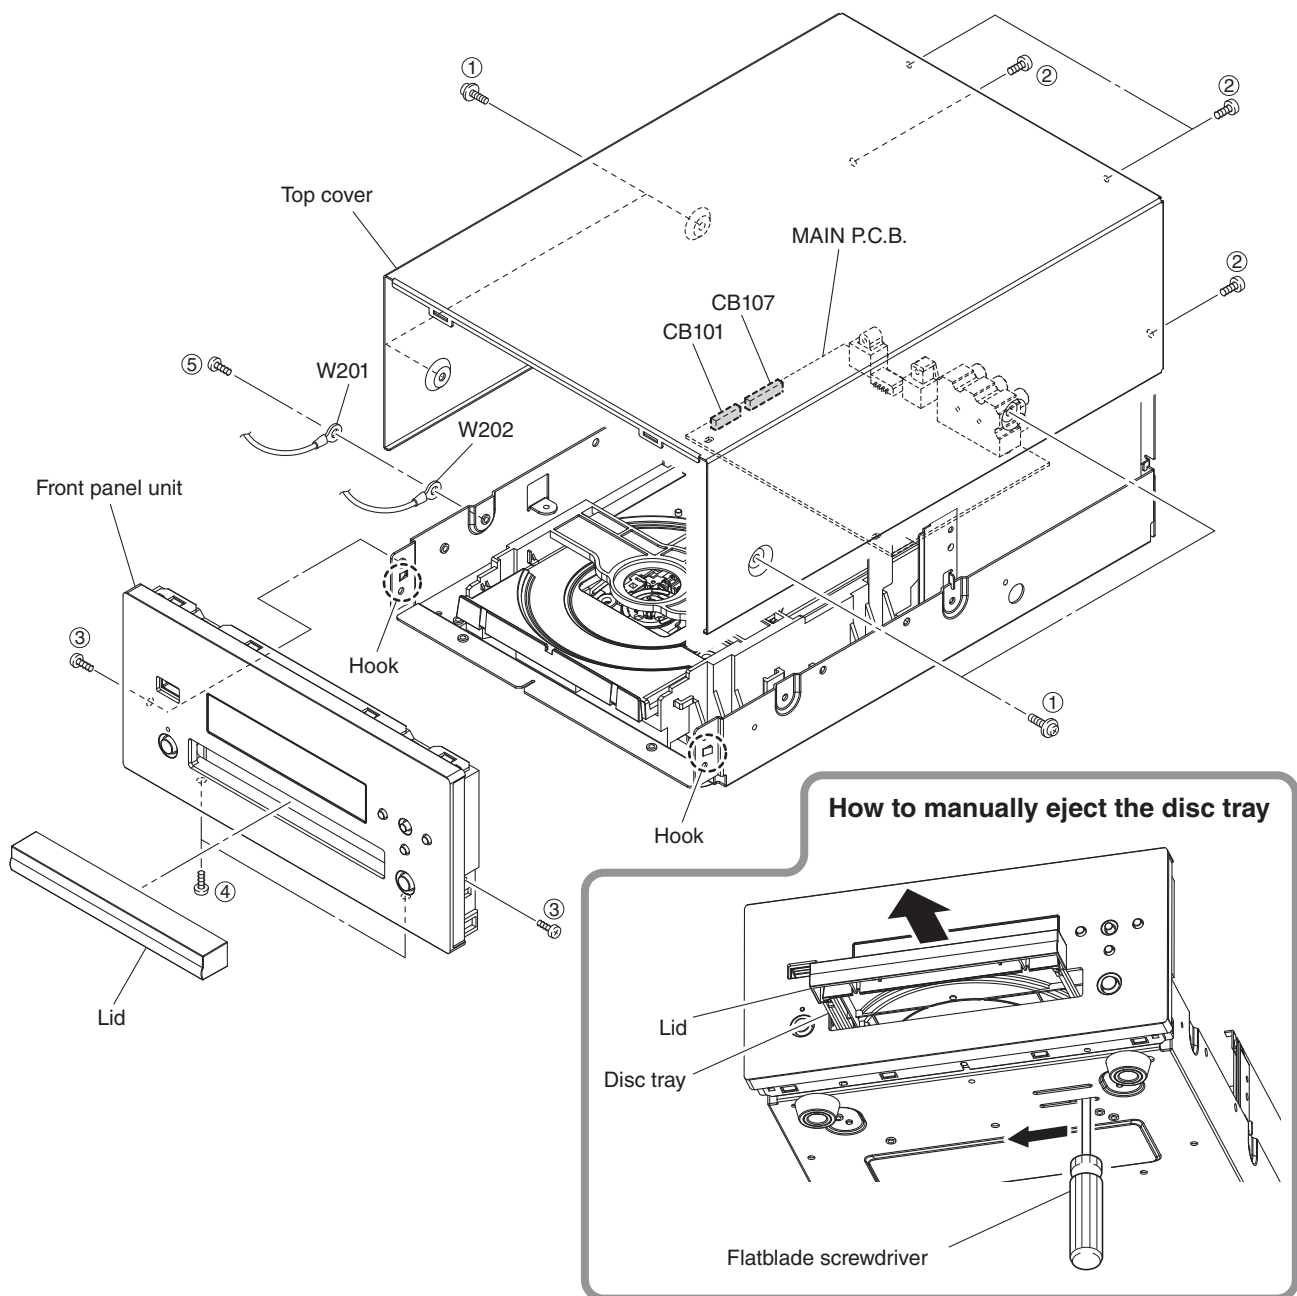

Fig. 1
- Slide the top cover rearward to remove it. (Fig. 1)
- Using a flatblade screwdriver, move the slider at the bottom in the direction of the arrow shown below. (Fig. 1)
Open the disc tray, remove the lid and close the disc tray. (Fig. 1)
- Remove 2 screws (③) and 2 screws (④). (Fig. 1)
- Remove screw (⑤) and remove W201-202. (Fig. 1)
- Remove CB101 and CB107. (Fig. 1)
- Release 2 hooks and remove the front panel unit. (Fig. 1)